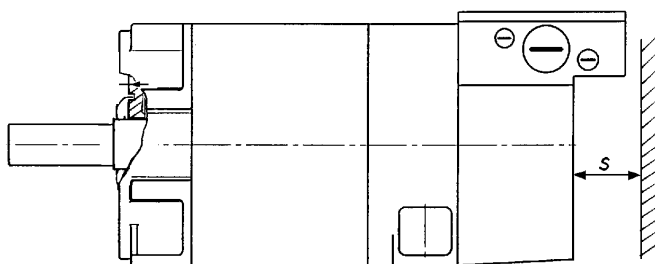

Fig. 4 Minimum clearance
- The motors must be installed in such a way that the cooling air can flow in and out unhindered. It is essential to observe the minimum distance s between the inlet and outlet air openings and the neighbouring components (Fig. 4)! Hot outlet air must not be drawn in again.